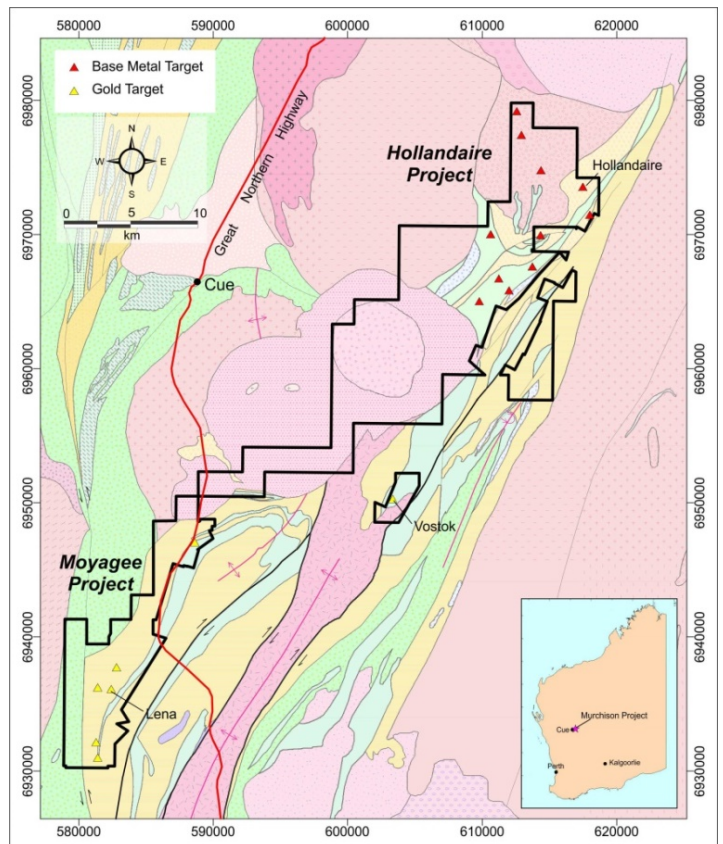

Figure 1: Cue project location plan comprising Hollandaire and Moyagee projects
Musgrave Minerals Ltd (“Musgrave” or “the Company”) (ASX: MGV) is pleased to announce the commencement of reverse circulation (RC) drilling on four gold targets and two gold-copper targets at the Cue Project (Figure 1). The Cue Project (“The Project”) is a Farm-In and Joint Venture Agreement with Silver Lake Resources Limited (“Silver Lake”) (ASX: SLR) where Musgrave can earn up to an 80% interest.